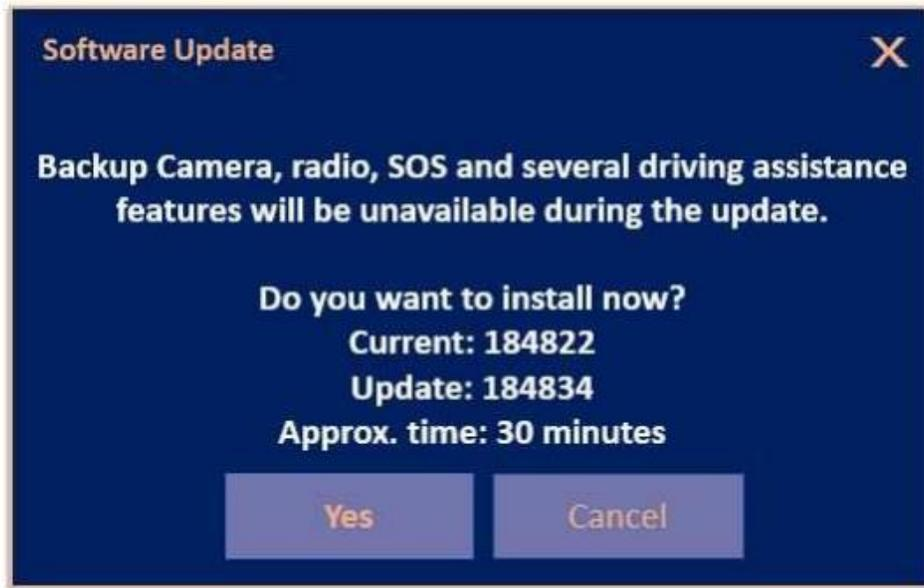

Figure 7 – Update Ready to Install
16. Press “Yes” to start the update. The software update takes approximately 30 minutes to complete (Figure 7).